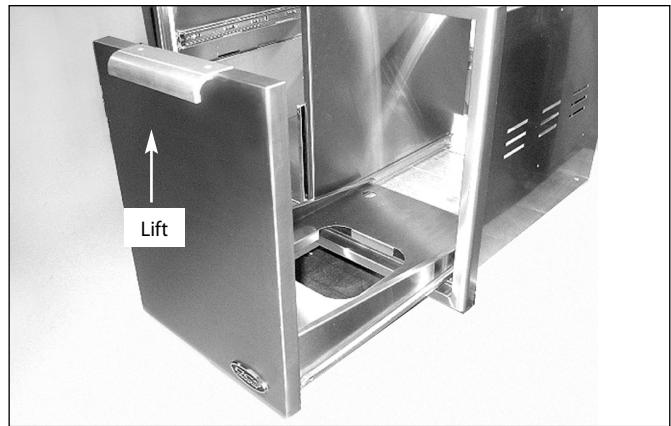

Fig. 8
- To remove the LP tank drawer on the right, pull the drawer out and lift the end by the handle to disengage the rollers (Fig. 8).